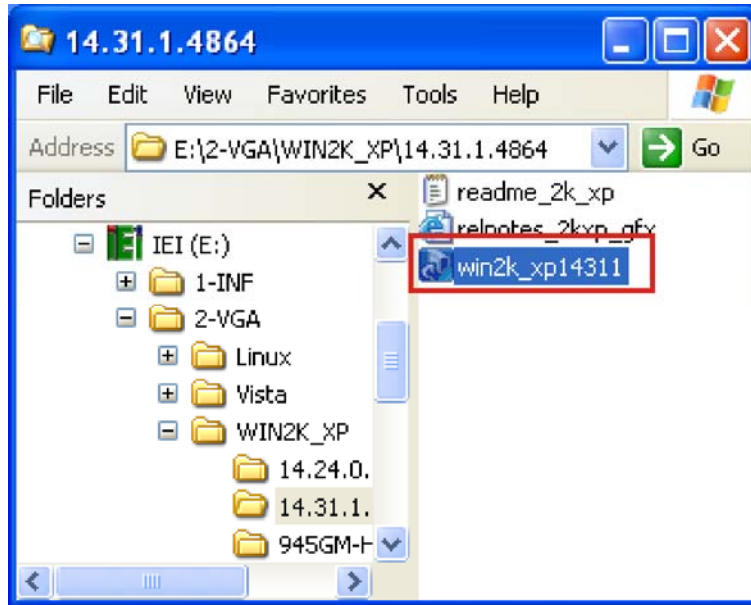

Figure 7-8: Select the Operating System
Step 2: Browse to the directory shown in **Figure 7-8**.